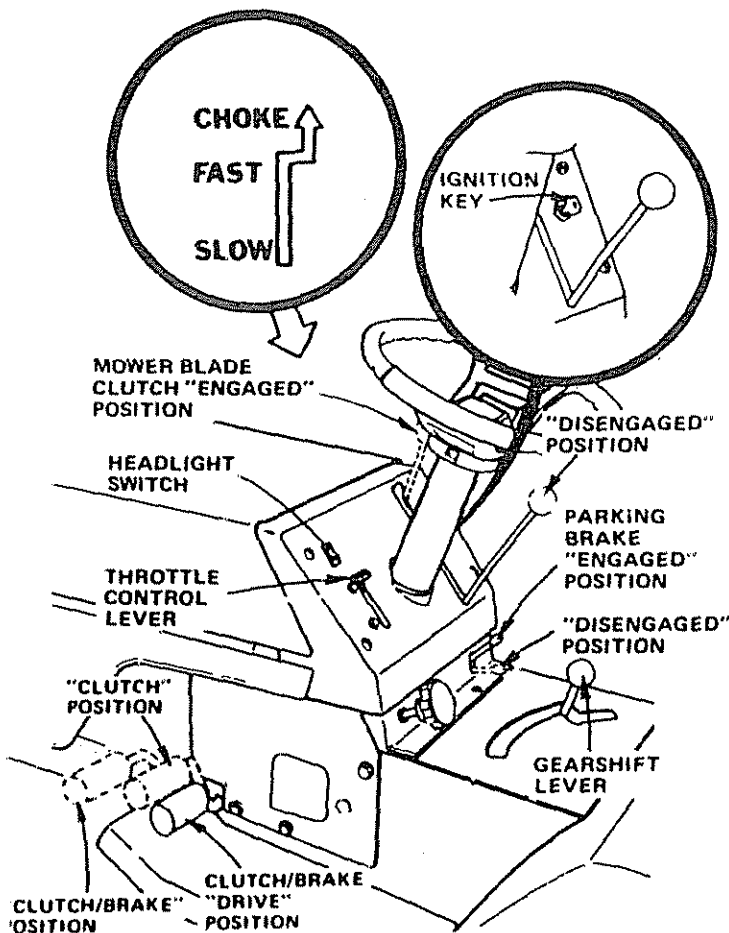

FIGURE 7
- a. Move throttle control lever (Fig. 7) past "FAST" to the "CHOKE" position.